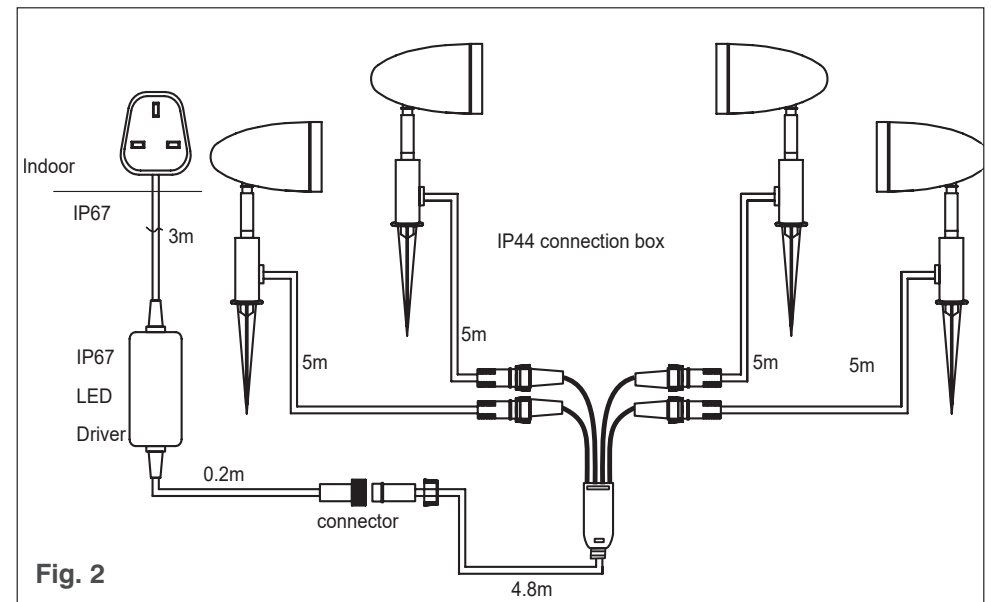

Fig. 2
- See Fig. 2. Plan the desired position for these fittings carefully, ensuring the cables will reach the distances between the indoor plug, the outdoor driver and each light fitting.